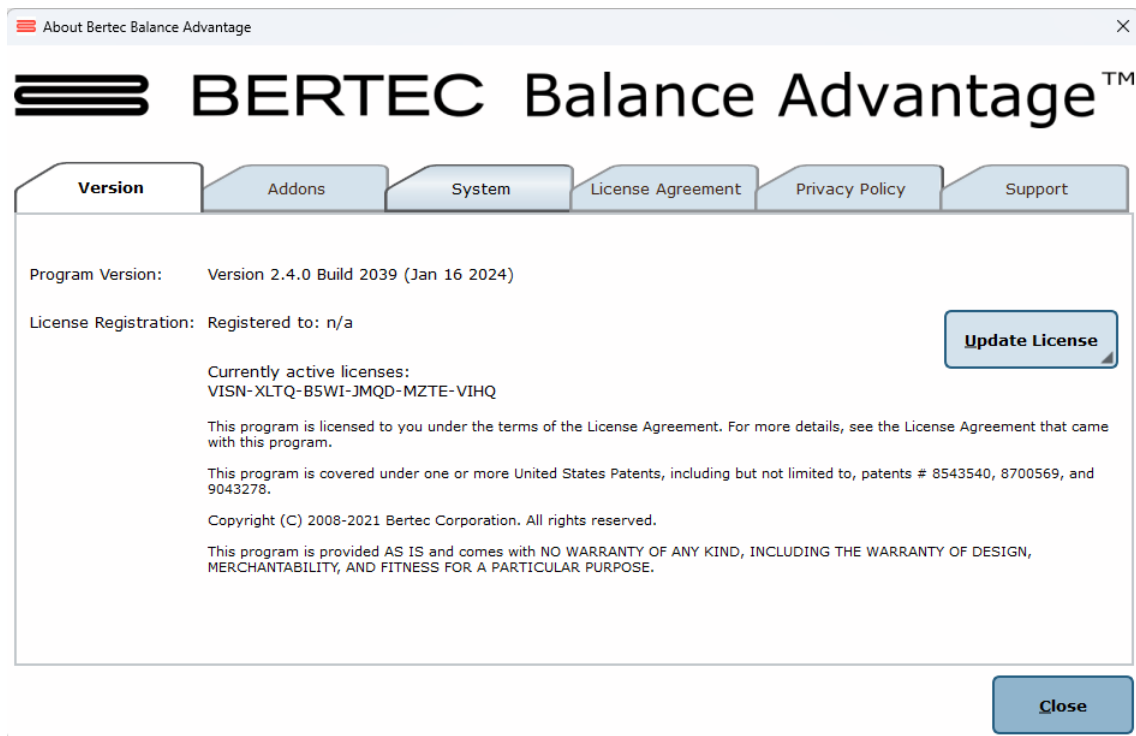

Figure C1: About Balance Advantage.
**About Bertec® Balance Advantage®:** This option will open a new window, shown in Figure C1. The new window contains six different tabs: Version, Addons, System, License Agreement, Privacy Policy and Support. These tabs are underlined/described below and on the following page.